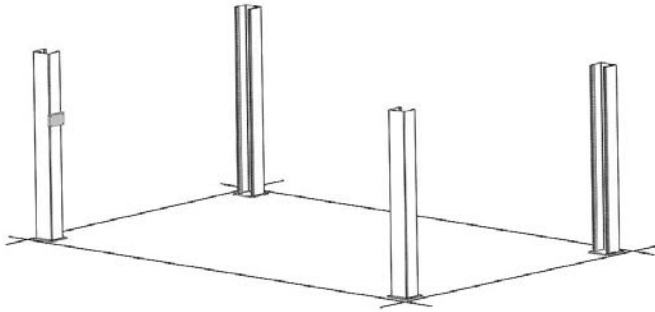

Fig 3.1
1. Place a chalk line on the floor according to the floor plan layout. Pay attention to the Power Unit location. Locate and stand the Columns at their respective locations. **DO NOT BOLT** Columns down at this time. Use caution to prevent the Columns from falling over. (See Fig. 3.1)